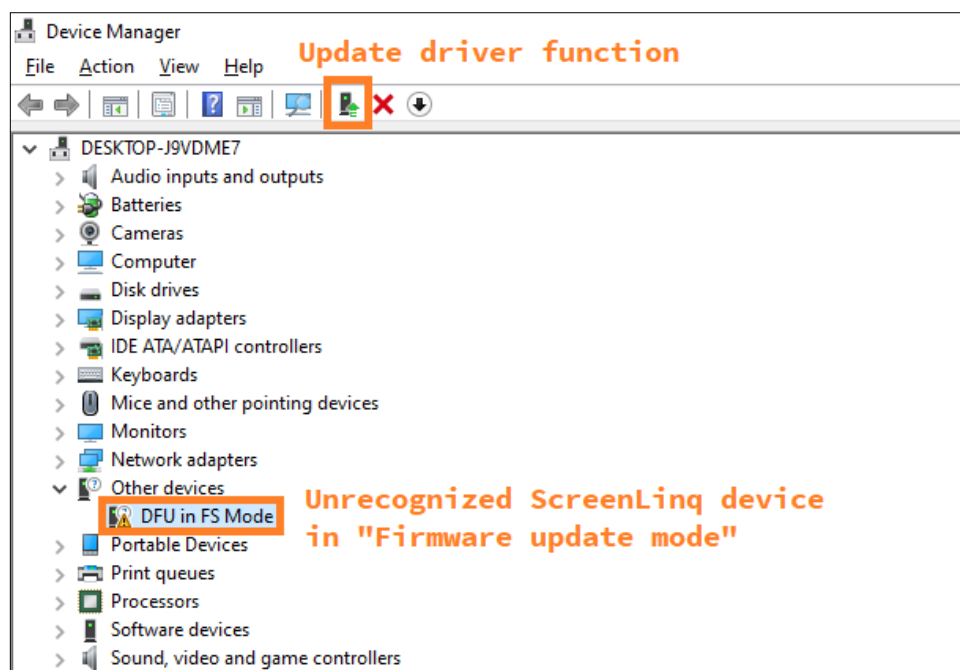

Figure 17: An unrecognized ScreenLinq device in Windows 10 Device Manager.
In the case of Microsoft Windows 10, a ScreenLinq device will appear in *Device Manager* as a device with a *Warning* symbol (see Fig. 17), indicating that such a device might not operate as desired.
- 2 Find a ScreenLinq device in *Device Manager* (see Fig. 17),